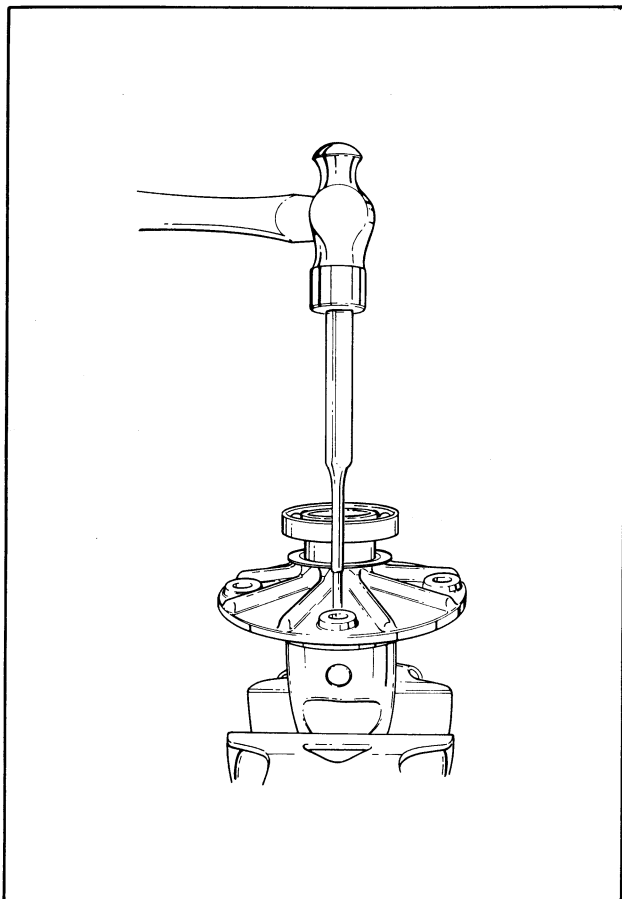

Figure 26 – Driving Out Lock Pin
- m. Drive out lock pin (9) which secures pinion mate shaft (14) to differential case (10). See Figure 26.